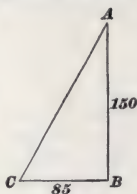

FIG. 29.
**SOLUTION.**—In Fig. 29,  $AB$  represents the steeple, 150 feet high;  $C$  a stake 85 feet from the foot of the steeple, and  $AC$  the rope. Here we have a right triangle right-angled at  $B$ , and  $AC$  is the hypotenuse. The square of  $AB = 150^2 = 22,500$ ; of  $CB$ ,  $85^2 = 7,225$ .  $22,500 + 7,225 = 29,725$ ;  $\sqrt{29,725} = 172.4$  ft., nearly. Ans.